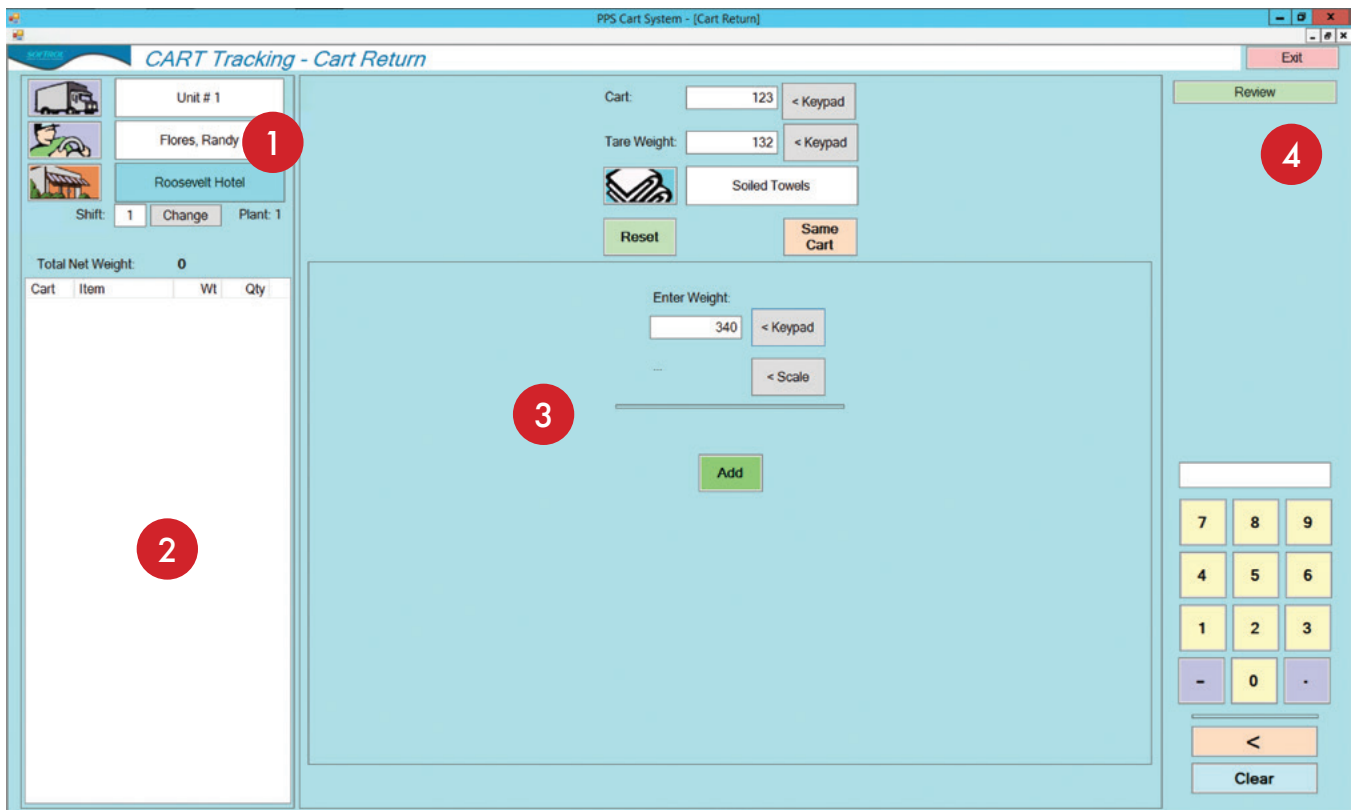

Figure 5. PPS Cart: Cart Return.
The *Cart Return* window contains three main areas: (1) route and customer information, (2) the inventory, and (3) the inventory entry form (see Figure 5). Error messages and notifications appear under the **Review** button (4). As the carts roll off of the truck, you enter the route (or truck), driver, and customer information. Once you have entered the required information, you then add the cart contents to the system.